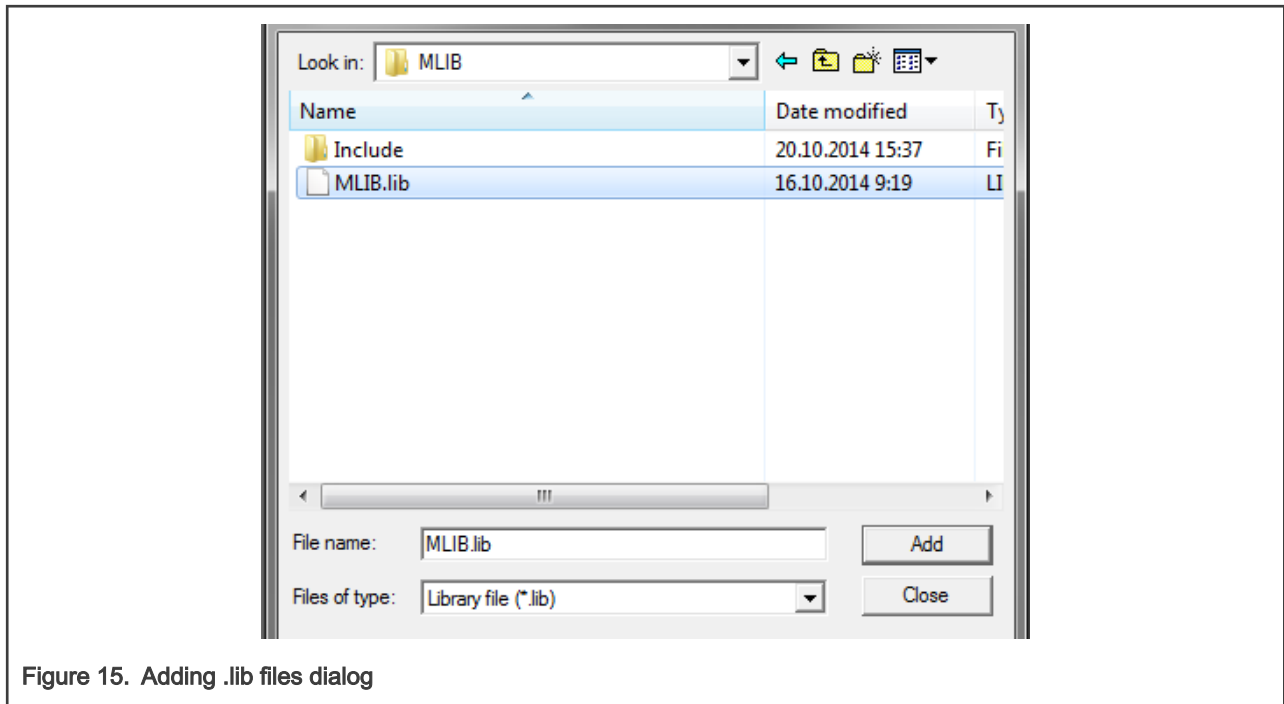

Figure 15. Adding .lib files dialog
- Navigate to the parent folder C:\NXP\RTCESL\CM7\_RTCESL\_4.7\_KEIL\MLIB, and select the *mlib.lib* file. If the file does not appear, set the Files of type filter to Library file. Click Add. See Figure 15.